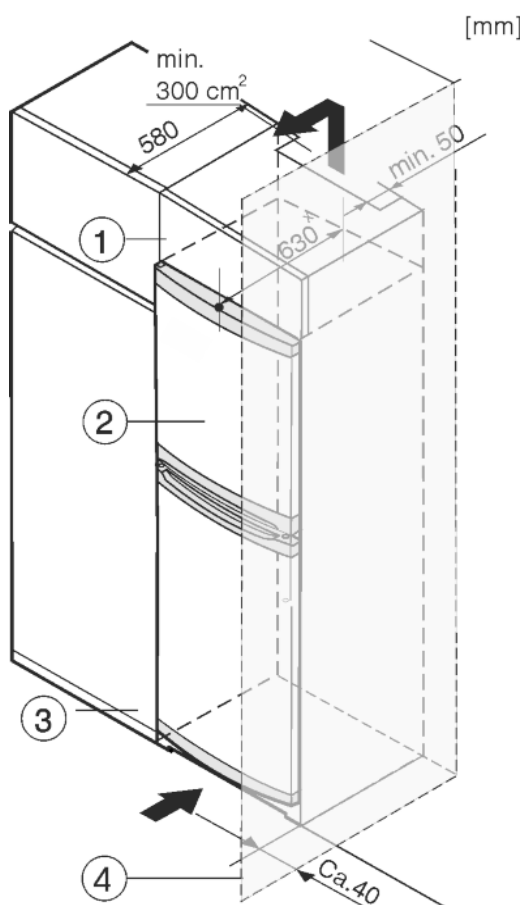

Fig. 8
- (1) Stack cabinet
- (2) Appliance
- (3) Kitchen cabinet
- (4) Wall
The appliance can be built into kitchen units. A top cupboard *Fig. 8 (2)* can be added above the appliance in order to bring the appliance *Fig. 8 (1)* up to the height of the fitted kitchen units.
When installing with kitchen units (max. depth 580 mm), the appliance can be positioned directly next to the kitchen cabinet *Fig. 8 (3)*. The appliance will project by 34 mm * at the sides and 50 mm * in the centre of the appliance in relation to the kitchen cabinet front.
If the appliance is installed with the hinges next to a wall *Fig. 8 (4)*, the distance between appliance and wall has to be at least 40 mm. This corresponds to the projection of the handle when the door is open.